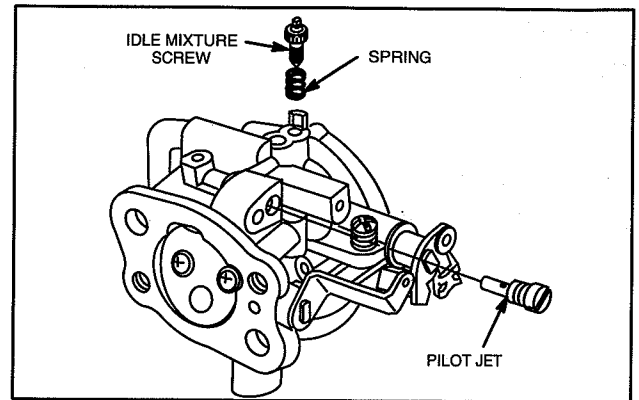

Fig. 39 – Install Idle Mixture Screw
15. Install idle mixture screw and spring, Fig. 39.